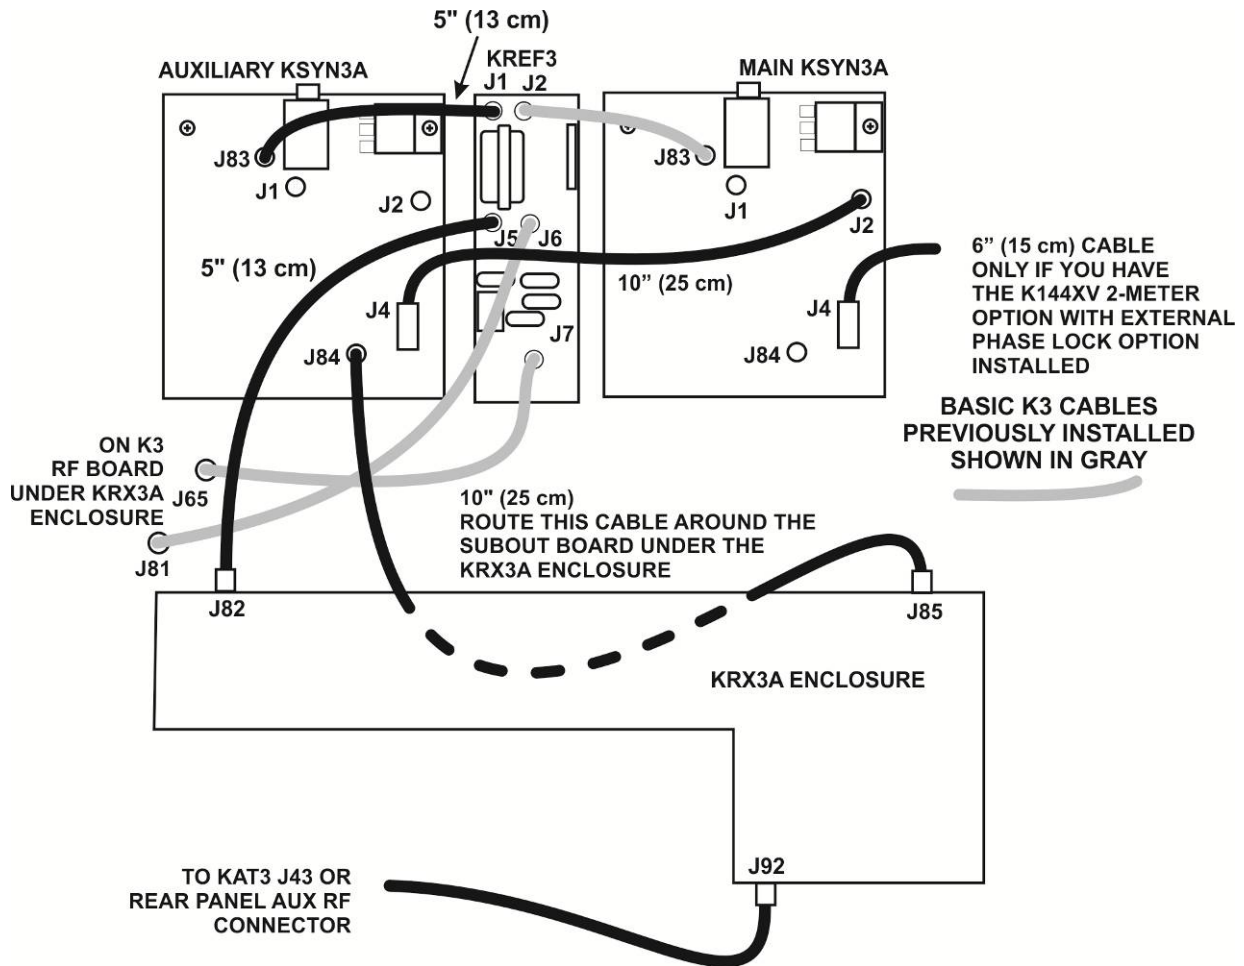

Figure 48. TMP Cable Connection Pictorial Diagram.
If you have the K144XV 2-meter option with the K3EXREF phase lock option installed, connect one 6” (15 cm) cable to J4 on the Main KSYN3A board (see Figure 48). The other end will be connected to the K144XV module when you reinstall it later.
Connect the 10” (25 cm) TMP cable you connected to J4 on the Auxiliary KSYN3A earlier to J2 on the main KSYN3A board (see Figure 48).
**⚠** That will complete all of the cables shown in Figure 48 except the cable between J83 on the Auxiliary KSYN3A and J1 on the KREF3 board. This will be installed after the KRX3 enclosure is installed. You may wish to remove the existing cable between J2 on the KREF3 board and J83 on the main KSYN3A board to provide better visibility when installing the KRX3A RF enclosure in the following steps.
- Hold the assembled KRX3A module directly over the K3 and attach the TMP cables to J82 and J85 on the module as shown in Figure 48.
Connect a 5" (13 cm) TMP cable between J1 on the KREF3 board and J83 on the Auxiliary KSYN3A board (see Figure 48).
If you removed the cable between J2 on the KREF3 board and J83 and the Main KSYN3A synthesizer, replace it now (Figure 48).